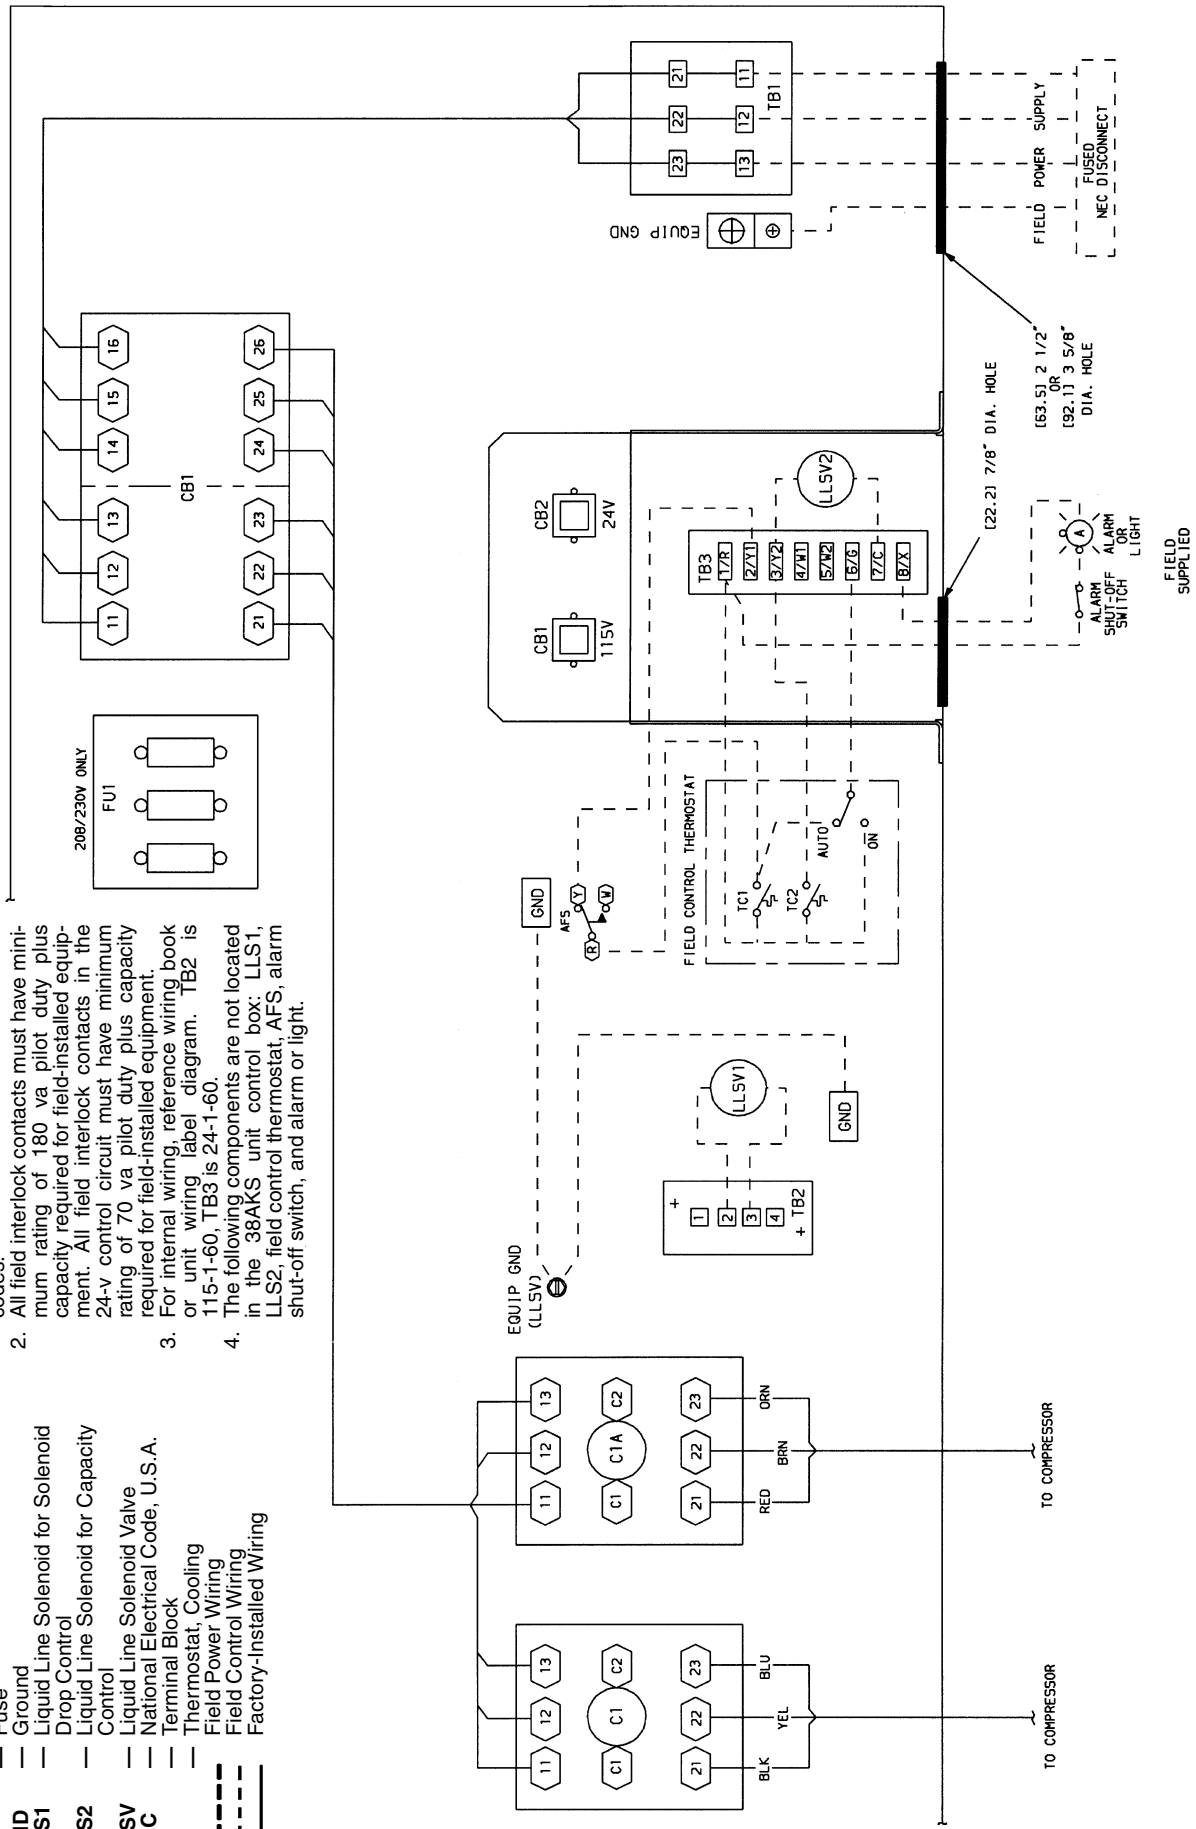

Fig. 13 — Typical Wiring Schematic, 38AKS Units — Control Circuit Interlock
- Control Circuit Interlock (38AKS units)** — An airflow switch may be installed in the indoor air handler to prevent unit from running when indoor air is not flowing. This switch (no. HR81JE001) is available from Service Parts Center, or equivalent can be field supplied. This should be electrically interlocked in the control circuit, between thermostat TC1 (stage 1, cooling) and terminal **2** **Y1** on TB3. See Fig. 13 for typical field wiring. This is in the 24-v circuit. wires must be run in conduit with ground wire.